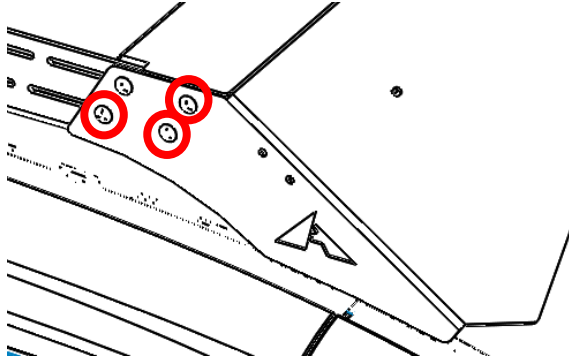

Figure 1: Remove Carriage Bolts from Side of Air Dam
2. Remove the front three (3) carriage bolts on the side of the air dam as indicated in Figure 1.